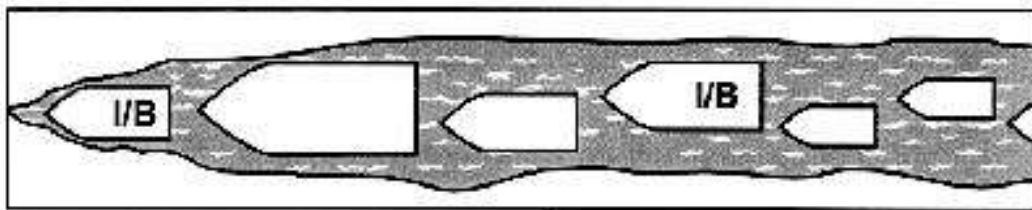

Figure 6-6 Several Ships Escorting Convoy
- 5 Multiple Escorts. Often several ships will be assigned the convoy escort task. This greatly simplifies the operation. One vessel can break track leaving the other vessel to break a parallel track or assist vessels in the convoy as necessary (See **Figure 6-6**).